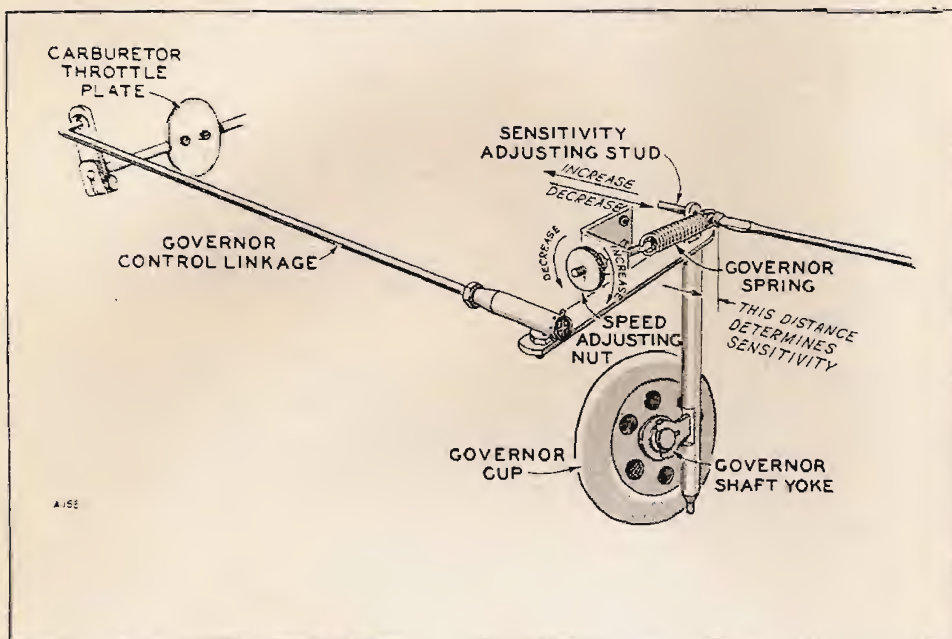

Fig. 19 Governor Adjustments
Fig. 19, to obtain a frequency reading of between 60 and 63 cycles for a 60 cycle plant (50 to 53 cycles for a 50 cycle plant). The voltage should be within the limits shown in the table III according to the rated voltage shown on the plant nameplate.
2. Connect a full electrical load to the generator. The governor should act smoothly and quickly to keep the voltage and frequency within the limits shown in the table. However, there should be not more than a spread of 3 cycles between the no load frequency and the full load frequency. For example, if the frequency was 62 cycles at no load, then the full load frequency should be not less than 59 cycles. If the cycle spread is more than 3 cycles, turn the sensitivity adjustment screw, Fig. 19, in (clockwise) a half turn. This will, in turn, necessitate a slight compensating speed nut adjustment. Repeat the process until the cycle spread is within 3 cycles, and voltage is within the limits shown in the table.